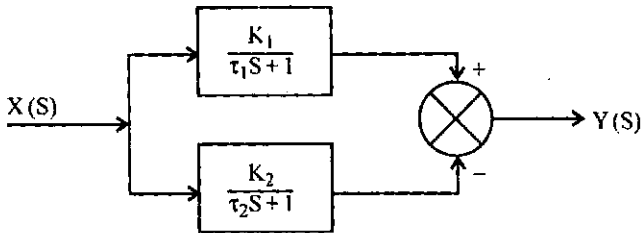

Fig. 4
- (b) Fig. 4 shows a block diagram, representing two first order processes in opposing modes :